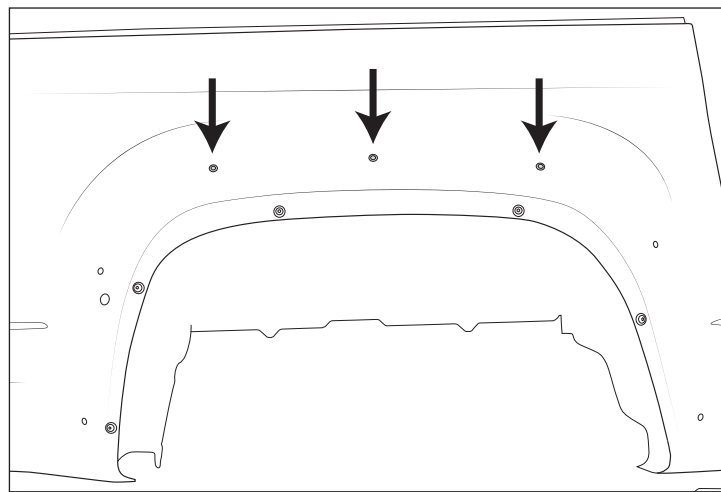

Figure 20
8. Install supplied riv-nuts into the top three holes on each bedside (fig. 20)